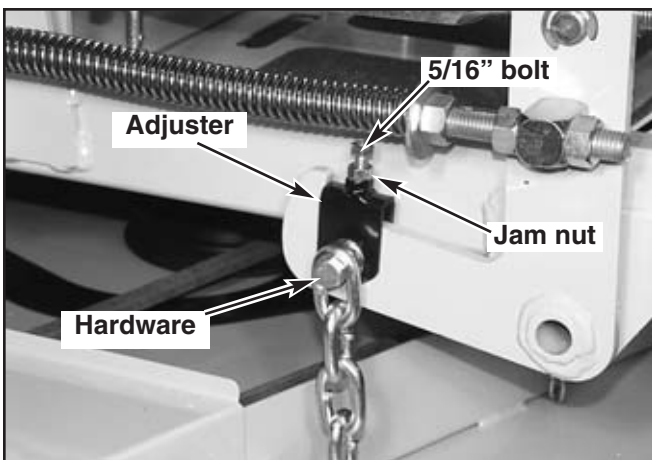

Figure 11-37
14. Loosen the 5/16" jam nut on the adjuster lift chain (Fig. 11-37), and back the adjuster bolt out to allow the adjuster to move up and down freely.
17. Tighten the adjuster bolt jam nut to prevent the adjuster bolt from moving. Fig. 11-37